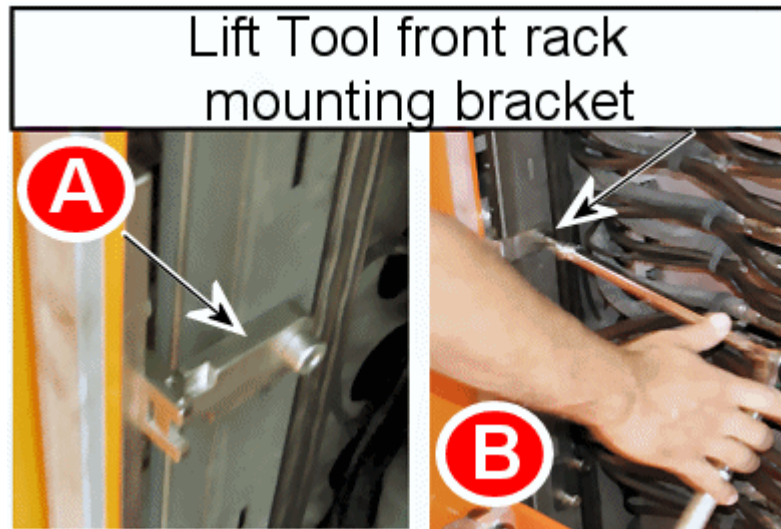

Figure 13 Lift Tool front mounting bracket
STEP 20 Flip the two Rack mounting brackets out (A) towards the slots on the Rack. See Figure 13.
STEP 21 Fasten the mounting brackets to the Rack using the 5mm hex bit 74Y0986 and ratchet 6428140 (B). See Figure 13.